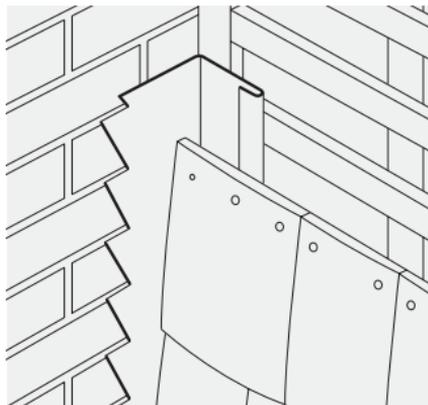

Fig. 35 – Abutment to wall, with flashing
- 3 Lead is taken around corner and top edge taken into brickwork mortar joints (Fig. 35).